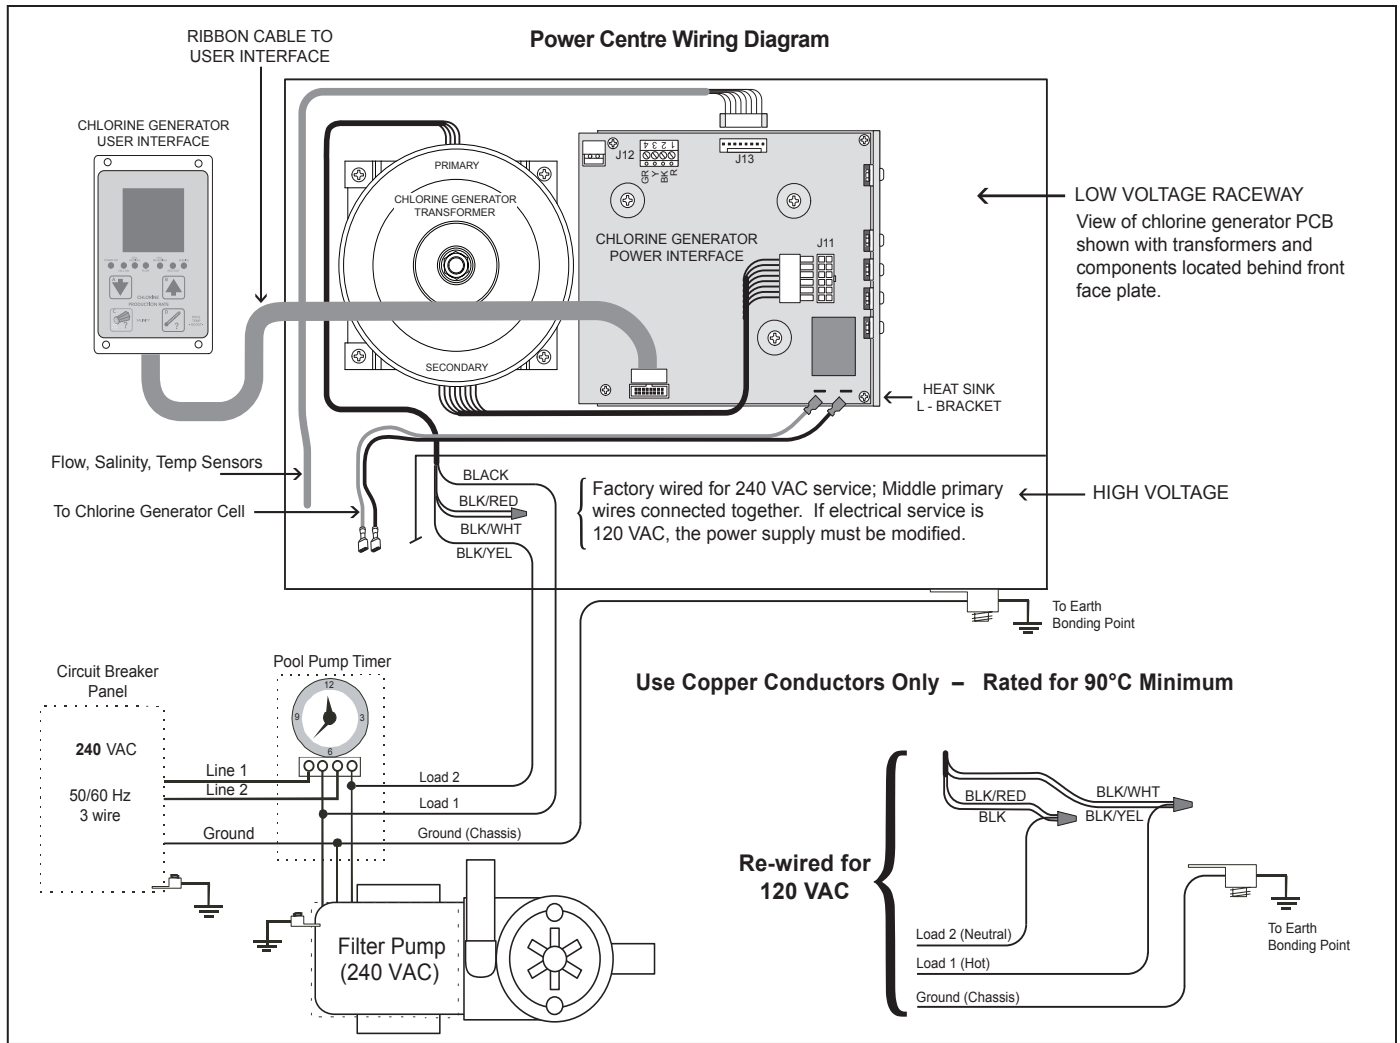

Figure 2. Wiring Diagram for the AquaPure® System
The electronics for the chlorine generator device are factory wired for 240 VAC service. If the available electrical service is 120 VAC then the power supply wiring must be changed to operate on 120 VAC as shown in Figure 2.
- Check source voltage. (All units are factory wired for 240 VAC). ***In order to use on 120 VAC, the internal factory wiring of the power centre must be changed. (See Figure 2).***
7. Install the strain relief provided with the electrolytic cell kit into the low voltage knock out. Feed the connector end of the flow/temp/salinity sensor cable through the DC cord strain relief fitting. **Be certain the connector is clean and dry**, then plug the cable into the connector on the power centre printed circuit board as shown in Figure 2. (**Do not pull Flow/Temp/Salinity Sensor cable too tight, allow a little slack**).
9. Connect the DC cord to the power centre. Feed the DC cord through the same strain relief fitting as the flow/temp/salinity sensor. Plug the DC cord into the two (2) spade connectors of the wiring harness located in the low voltage raceway of the control centre, see Figure 2. This wiring harness establishes the connection between the cell and the power interface PCB.
12. Plug one end of the ribbon cable into the back of the user interface and the other end into the J1 connector on the power interface PCB (see Figure 2).
2. Unplug DC cable from existing cell. Disconnect the DC cord from the wiring harness as shown in Figure 2. Loosen the strain relief fitting that also contains the cable for flow/temp/salinity sensor. Pull the DC cord out through the strain relief.
9. Connect the DC cord to the control centre. Feed the DC cord through the same strain relief fitting as the flow/temp/salinity sensor. Plug the DC cord into the two (2) spade connectors of the wiring harness as shown in Figure 2.